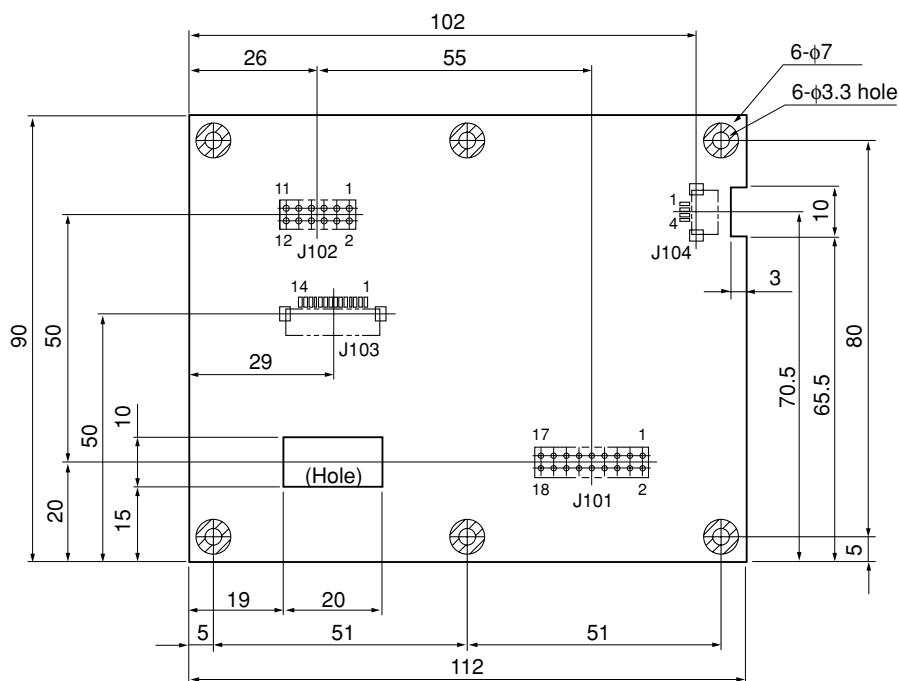

Fig. 3.2.3.1 LCD Board Dimensions
- Figure 3.2.3.1 is a rear face drawing seen from the board surface.